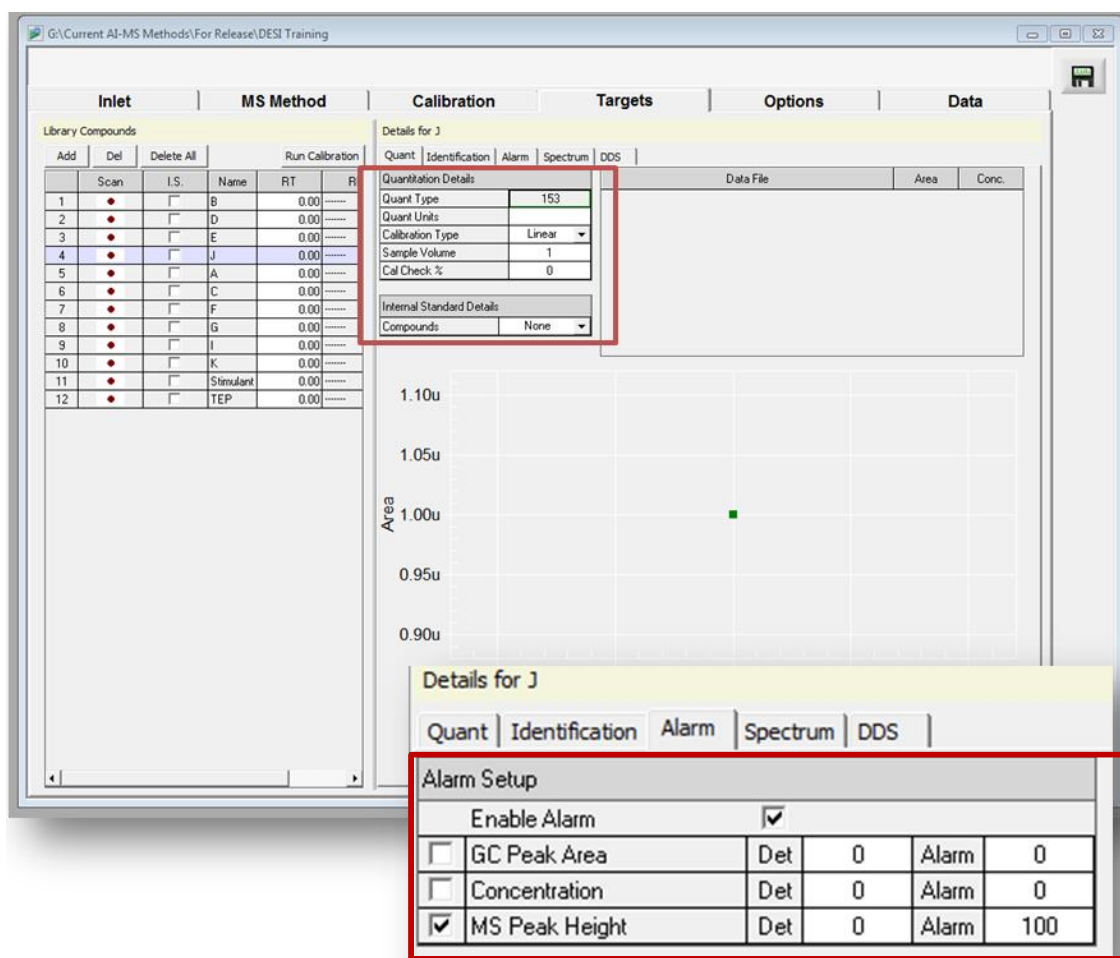

Figure 4.23 – Targets tab
6. Proceed to the “Targets” tab (Figure 4.23).
Ensure the appropriate chemical is selected in the target list and open the “Quant” tab on the right portion of the window. Check that the “Quant type” field lists the m/z of the parent ion utilized in MS/MS scan setting and the alarm plugin. Under the “Alarm” tab, check the “Enable Alarm” box to enable detection of the chemical in the method and check the MS peak height option (Figure 4.23). Minimum values for detection/ warning and for alarm can be entered into the same row. Typical values of 500 are entered for the “Detection” and “Alarm” fields.